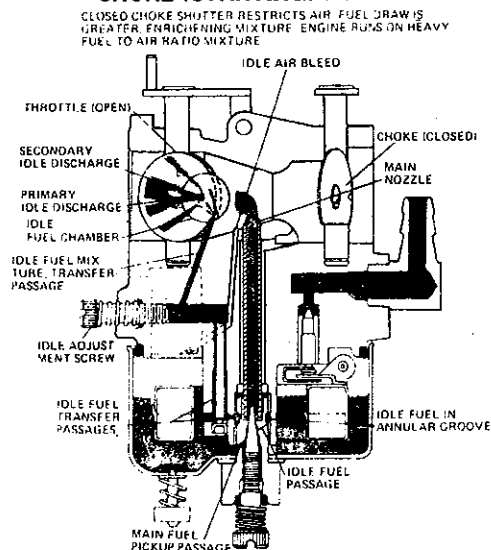

Figure 2
- B. In the CHOKE or start position (see Figure 2) the choke shutter is closed, and the only air entering the engine enters through openings a-